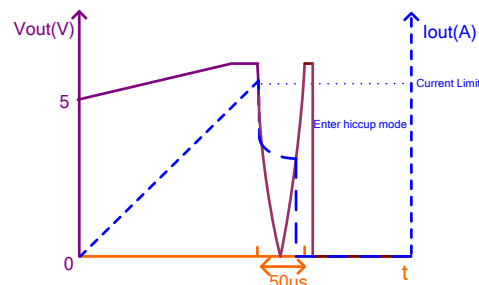

Figure 7: Over-Current Limit for CR Load
After the soft start finishes, if the USB output voltage is lower than 3.5V and lasts longer than 50 μ s, the MP5408 enters hiccup without having to wait 5ms (see Figure 7). This can prevent abnormal thermal rise during the constant resistor (CR) load over-current case.